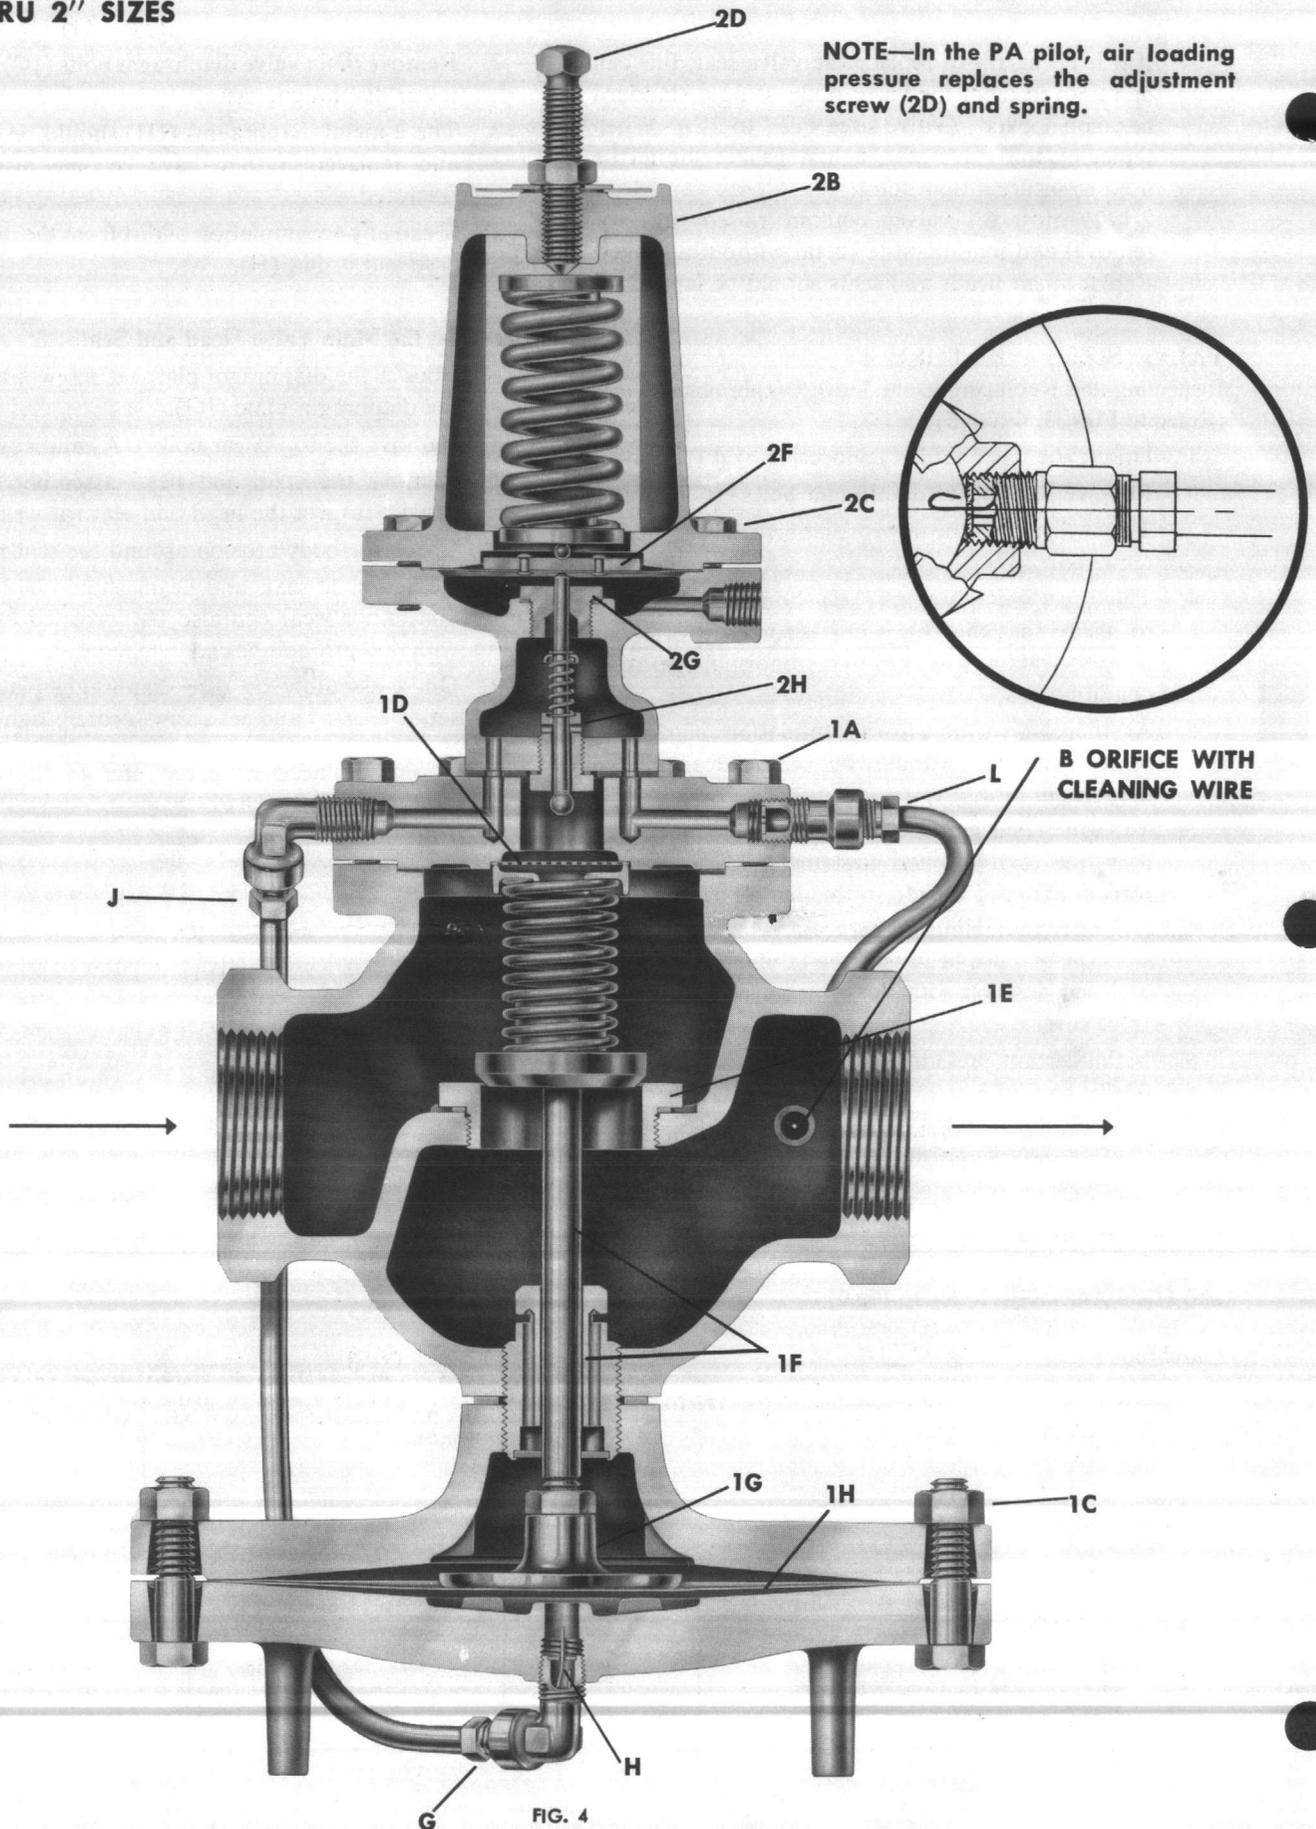

FIG. 4
REFER TO FIGS. 4, 5 & 6
SERVICING PROCEDURE (Refer to Fig. 4)
Inspecting and Replacing Pilot Valve Head and Seat. (Refer to Fig. 4)
2. Pilot valve head and seat are contained in one complete assembly. (See Fig. 4.)
Inspecting and Replacing Pilot Head Stem Guide. (Refer to Fig. 4)
Inspecting and Replacing Pilot Valve Diaphragms. (Refer to Fig. 4)
Inspecting and Replacing Main Valve Head and Seat. (Refer to Figs. 4 and 5)